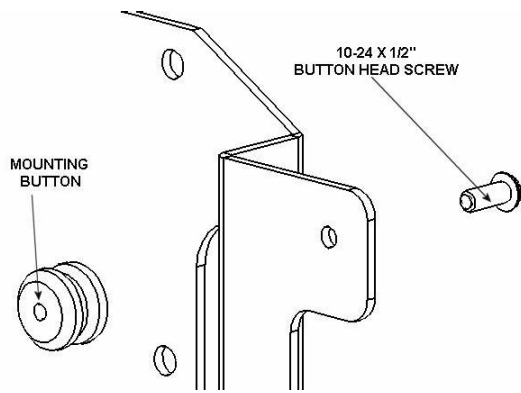

Figure 2
1. Using a 10-24 button head cap screw inserted from back side of bracket, secure mounting button, with chamfered hole of mounting button (larger surface) facing bracket, to bracket (four places) (see Figures 2 & 3). Make sure bends of interface bracket face away from buttons.